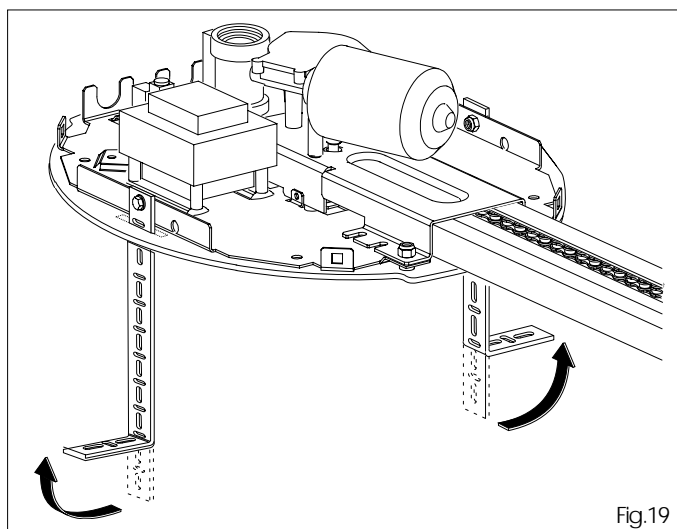

Fig.19
6.10 Bend the securing brackets in line with the measurements you had taken (fig. 19).